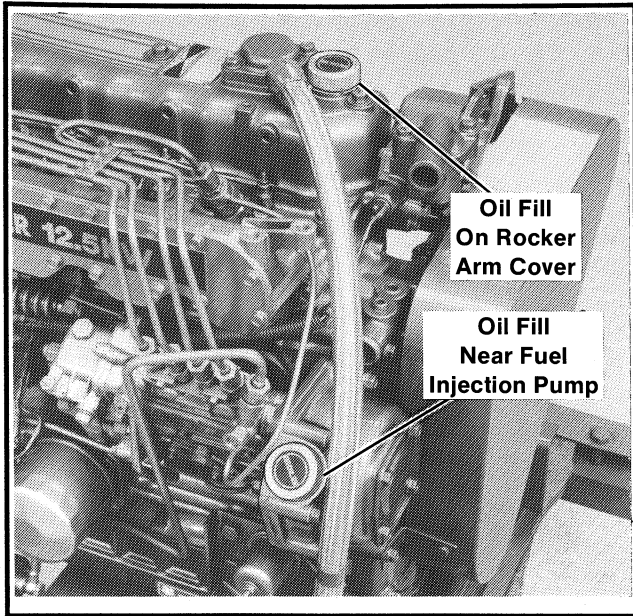

Figure 1-8. Oil Fill Locations
2. Remove oil fill cap. One is located on the rocker arm cover and one is located near the fuel injection pump. See Figure 1-8.